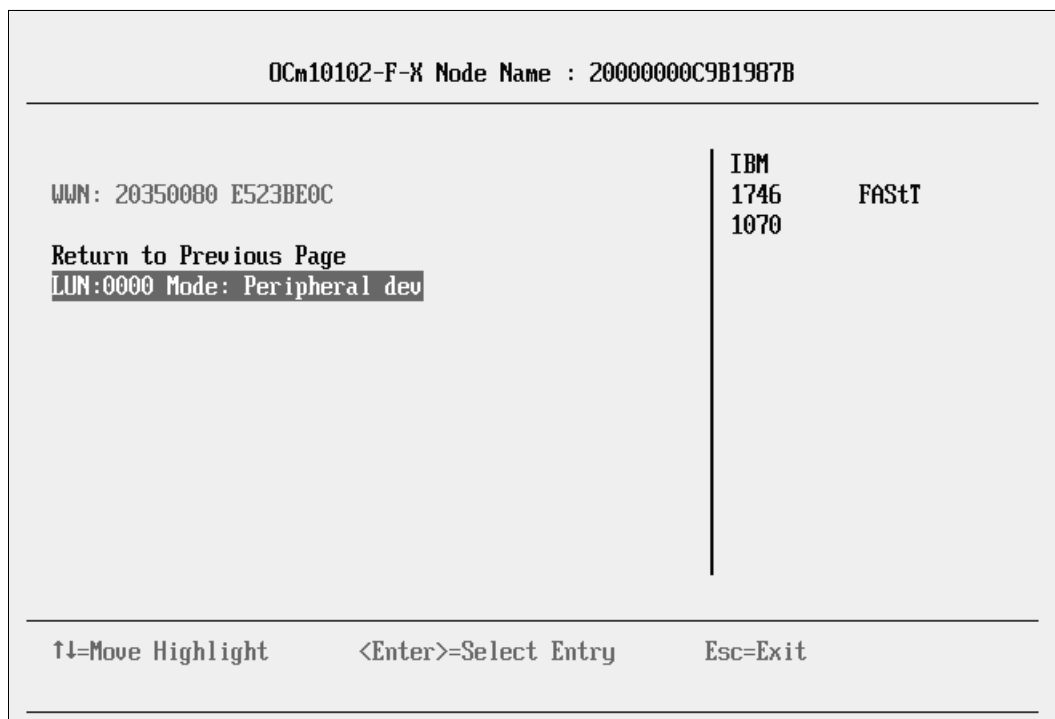

Figure 9-122 Selecting the LUN (LUN 0) to boot from
16. Select the LUN you want to boot from, and then press Enter (Figure 9-122).